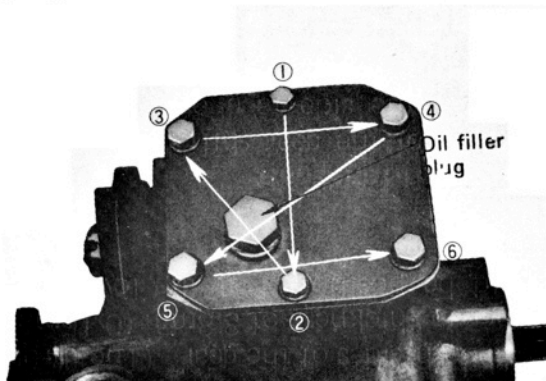
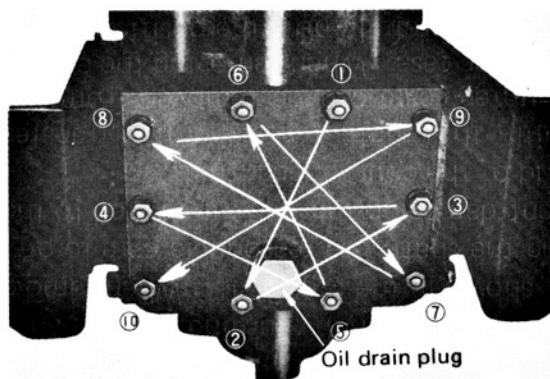

Fig. 3-14.
Fig. 3-15.
- 1) When installing the transfer case cover, make sure to tighten the bolts and nuts to the specified torques in the sequence as shown in the Fig. 3-14 and Fig. 3-15.